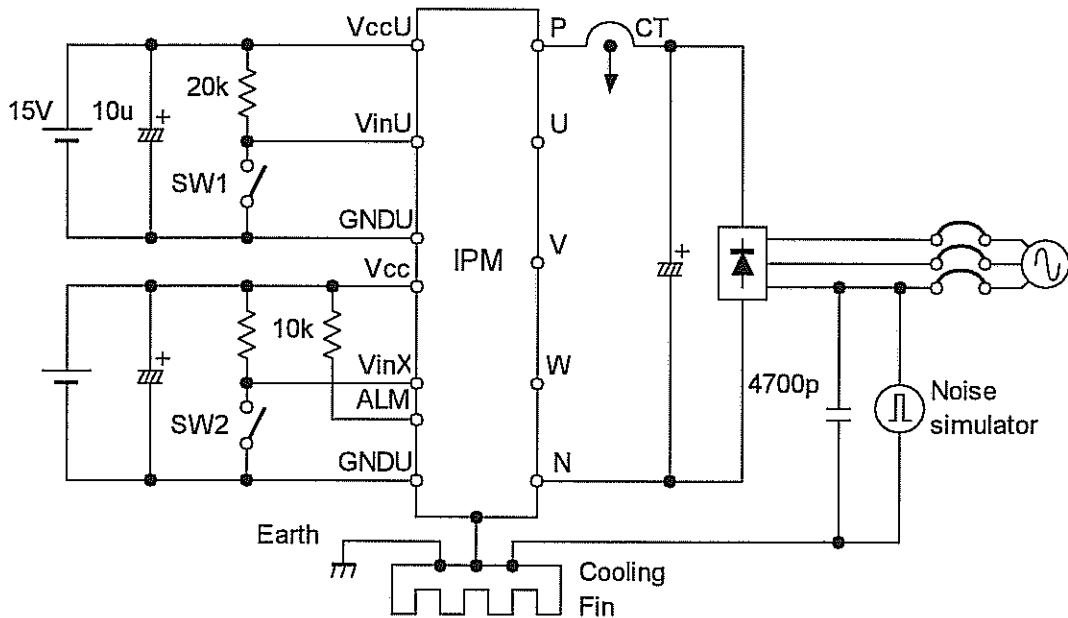

Figure9. Noise Test Circuit
7. Noise Immunity (Vdc=300V, Vcc=15V, Test Circuit Fig 9.)